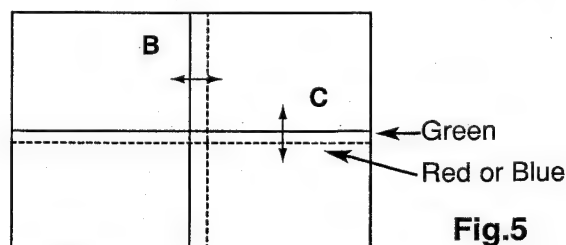

Fig.5
4. Turning screw "B", align the Red (or Blue) vertical lines onto the Green vertical lines (Fig.5).
5. Turning screw "C", align the Red (or Blue) horizontal lines onto the Green horizontal lines (Fig.5).
1. Adjustment screw "A" turns the image (Fig.5).